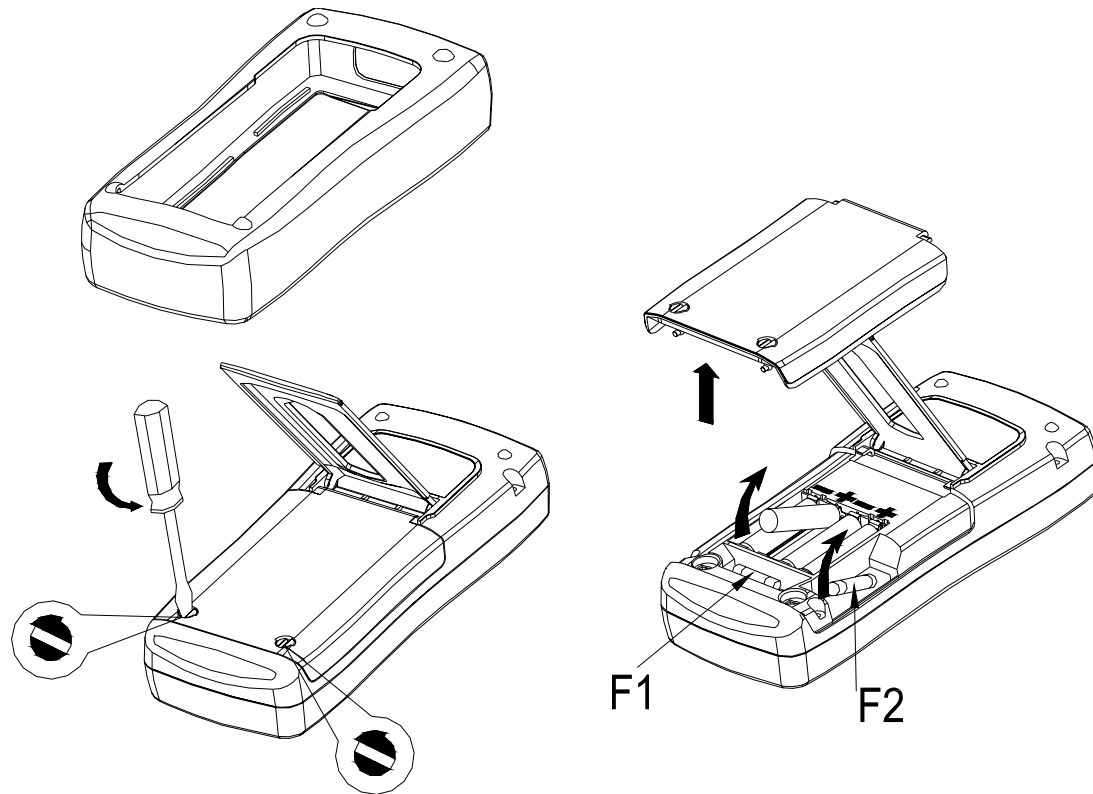

Figure 11. Replacing Batteries and a Fuse
Replace the batteries as follows. Refer to Figure 11. Use four AAA alkaline batteries.
4. Fuse F1 is blown if the outputs do not alter with the change of the fixed value, and replace it as follows. Refer to Figure 11 as necessary: